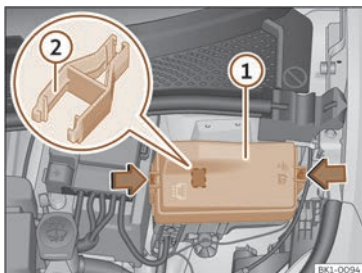

Fig. 197 In the front compartment: fuse box cover.
- Press the locking tabs to unlock the fuse box cover >>> **Fig. 197 ①**.
In the fuse box there may be plastic tweezers for removing fuses >>> **Fig. 197 ②**.